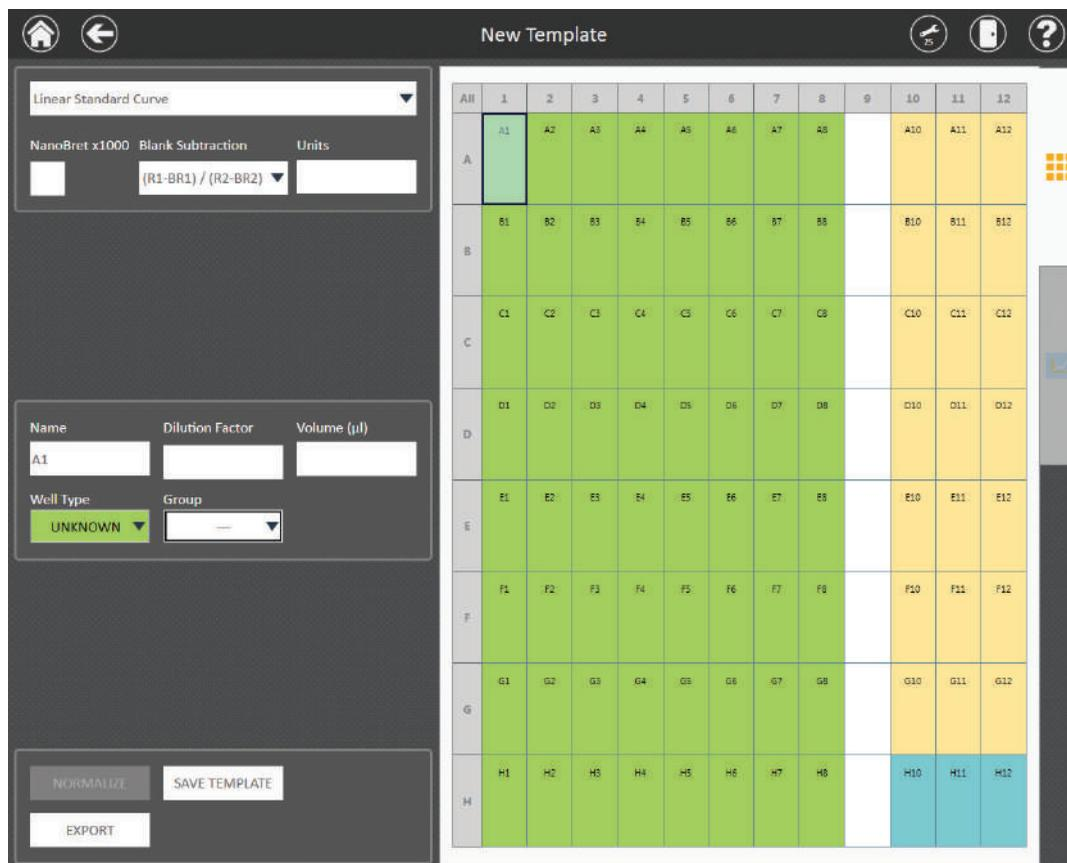

Figure 63. Template with well designations assigned. In this figure unknown, known and blank well designations have been assigned across a plate.
8. Touch and drag to select wells on the plate map that will contain samples of a given type. From the Well Type drop-down box select the corresponding well type (**Unknown, Known, Blank, Control**) that you wish to assign to those wells (Figure 63). For any Unknown wells, the user also may enter a sample volume.